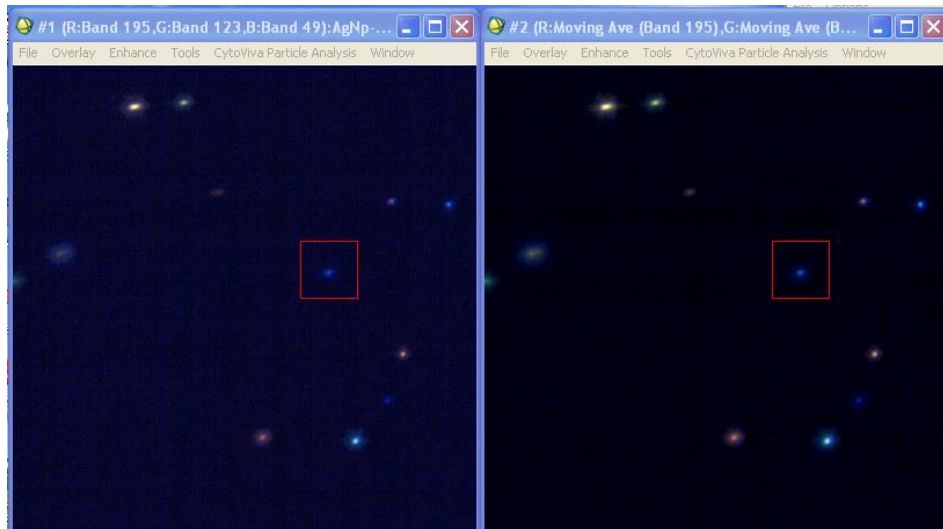

Figure 11h. Original Data Cube (left), Smoothed Data Cube (right)
- The filtered data cube will open (Figure 11h).